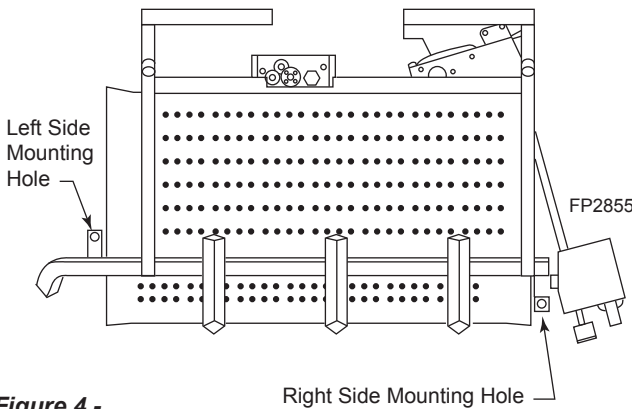

Figure 4 -
2. Refer to *Figure 4* for hole locations. After centering the grate correctly, mark the hole positions on the fireplace/firebox floor. Drill two (2) 5/32" diameter holes approximately 1 1/2" deep.
3. Anchor the grate to the fireplace/firebox floor using the screws provided. *Figure 4*